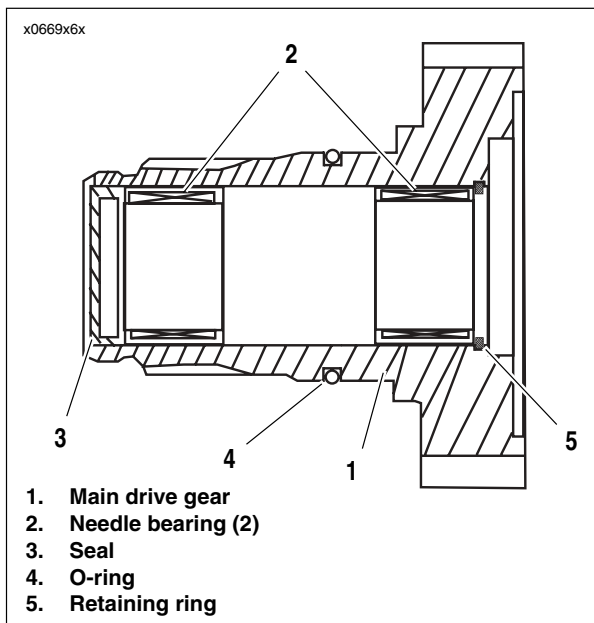

Figure 6-67. Main Drive Gear Assembly
3. See Figure 6-67. From inside case tap out seal (3) at end of mainshaft 5th gear. Discard seal.
1. See Figure 6-67. Remove and discard retaining ring (5).
2. Drive out needle bearings (2) from inside bore of main drive gear (1) using appropriate bearing and bushing puller. Discard bearings. Do not reuse bearings after removal.
3. Remove o-ring (4) from outside of main drive gear and discard. Do not reuse o-ring after removal.